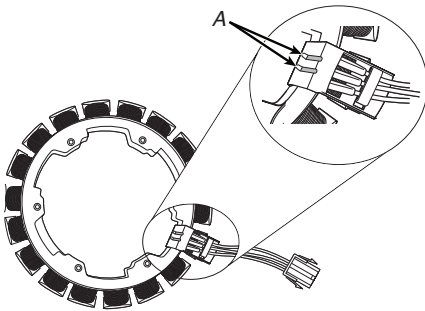

Figure 3 - Removing Shifter Coil and Checking Motor Electrical Connection
13. Visually check that motor electrical connection cover is fully seated (see below Figure 3).